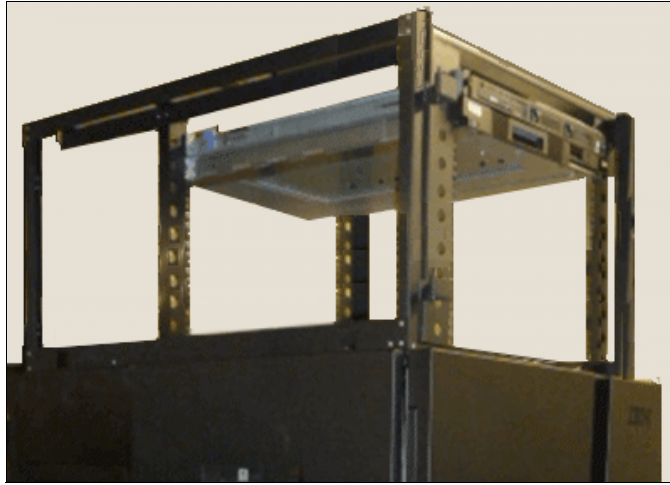

Figure 1-19 Top rack without covers and devices
- ▶ TopRack can be reinstalled with the switches on the TS4500; the existing TS3500 TR1 can be moved to the TS4500 (see Figure 1-19 on page 30).
Figure 1-19 shows the top rack without covers and devices installed.